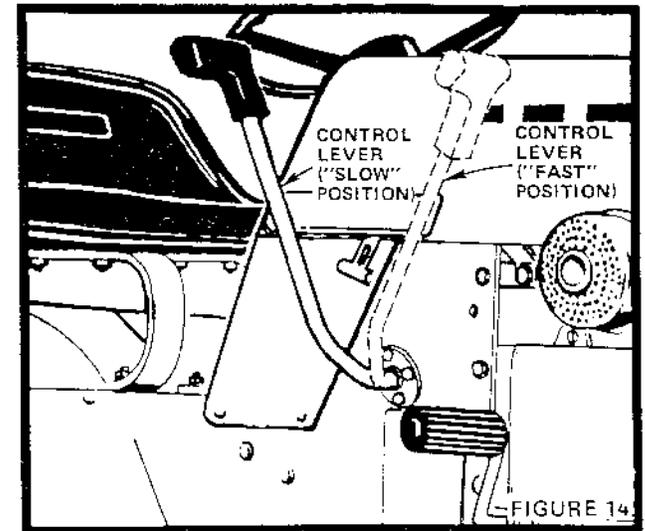

FIGURE 14
5. Move Control Lever to desired speed (Fig. 14). If ground travel is too slow advance Throttle Lever.